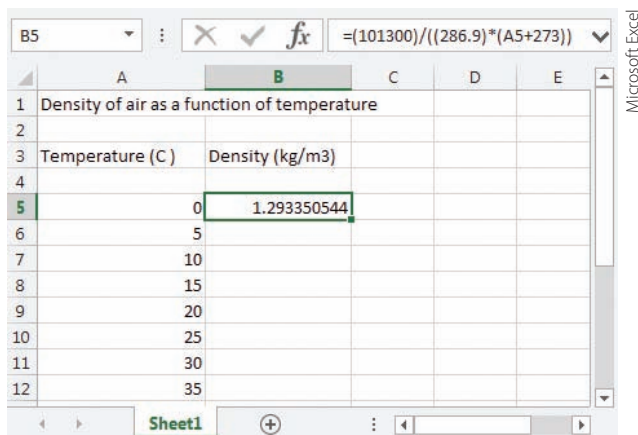

FIGURE 14.5
5. In cell B5, type the formula $= (101300) / ((286.9) * (A5 + 273))$, as shown in Figure 14.5.